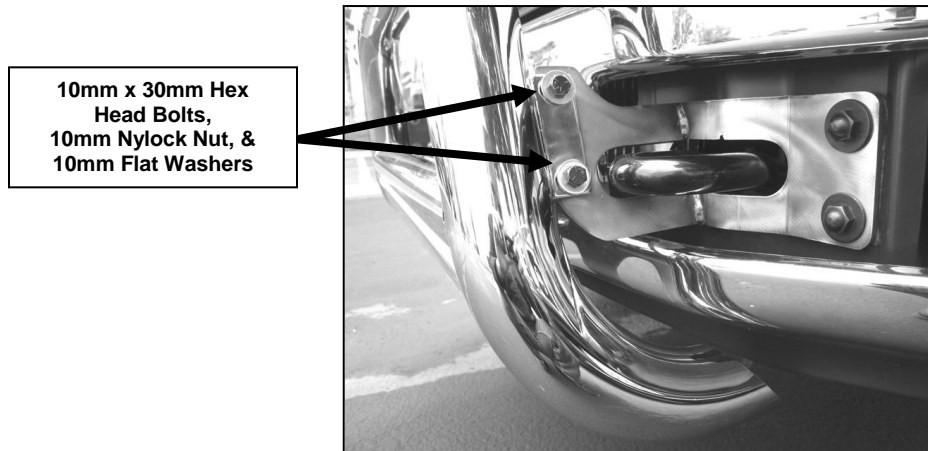

Figure 4
- 6.** With help position Bull Bar on the outer side of Mounting Brackets. Attach Bull Bar to Mounting Brackets using the included (4) 10mm x 30mm Hex Head Bolts, (4) 10mm Nylock Nuts, and (8) Flat Washers (Figure 4). Do not tighten at this time.